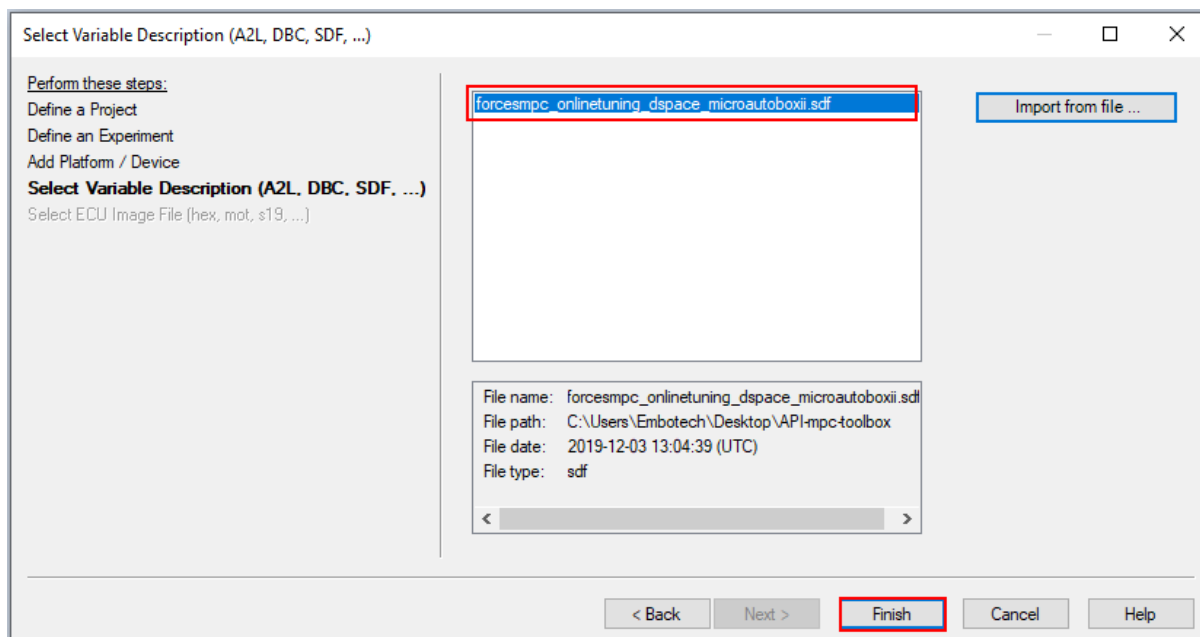

Figure 5.14: Click Finish to create the project
- 10) Click Finish to create the project (see Figure 5.14).